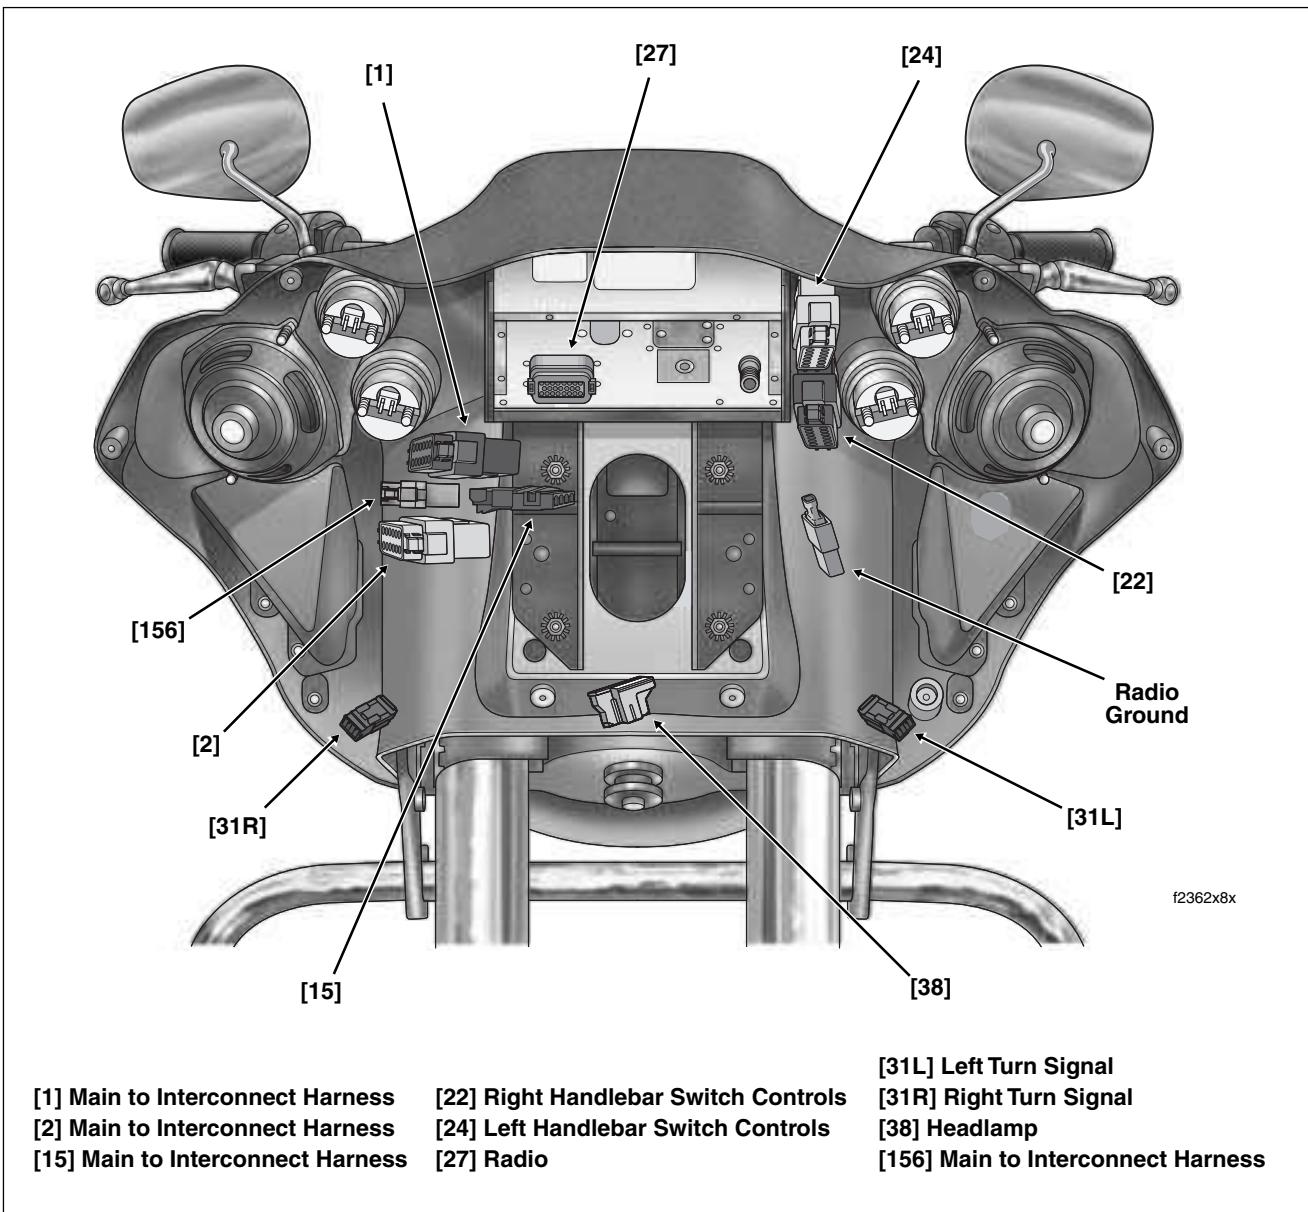
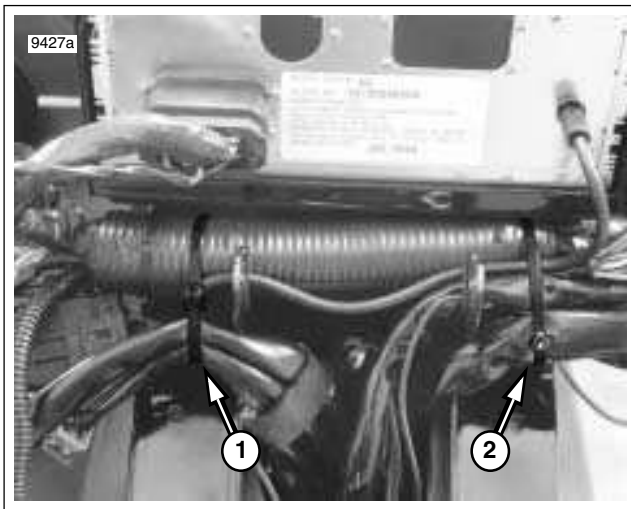

Figure 8-177. Inner Fairing - Interconnect Harness Connectors (FLTR)
Figure 8-179. Cable Strap Convoluted Tubing and Conduit
4. Carefully cut two cable straps to free wire bundles and conduit from convoluted tubing of interconnect harness and allow to hang naturally. See Figure 8-179.
5. See Figure 8-177. Disconnect main harness from interconnect harness as follows:
6. See Figure 8-177. Disconnect handlebar switch controls from interconnect harness. Disconnect radio and radio ground. Proceed as follows:
1. Center convoluted tubing of interconnect harness above and inboard of hooks on radio bracket. See Figure 8-179. To verify proper orientation, be sure that long length of conduit terminating in socket terminals of cigarette lighter is on left side of motorcycle. Install radio antenna
5. See Figure 8-177. Connect handlebar switch controls to interconnect harness. Connect radio and radio ground. Proceed as follows:
6. See Figure 8-177. Connect main harness to interconnect harness as follows:
7. Orient connectors as shown in Figure 8-177. Install two **new** cable straps outboard of radio bracket hooks to secure wire bundles and conduit to convoluted tubing of interconnect harness. Cut any excess cable strap material. See Figure 8-179.